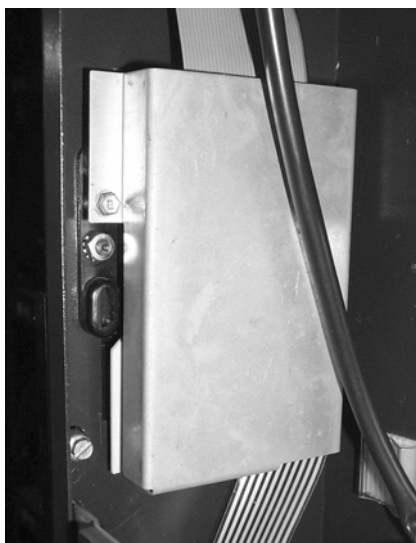

Figure 4
5. On the front panel of door, locate the aluminum cover mounted behind the display. This is mounted by two screw locations. Using a nut driver, remove the two screws and the cover. Refer to **Figure 4**.